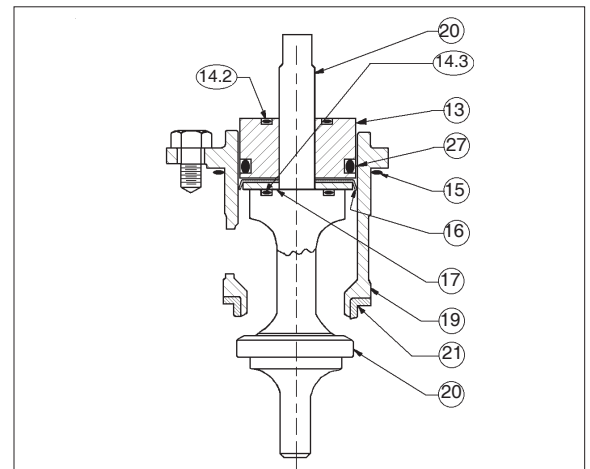

Figure 2: Assembled ITA, Composition Diaphragm Construction
1. Units with Composition Diaphragm(s) (See Figure 2):
- a. Pull the valve plug (20) downwards and out of the piston-guide bearing (13) and out of the cage's (19) bottom, while holding the cage (19).
- b. Remove the piston-guide bearing (13) from the upper end of the cage (19).
- c. Remove o-ring middle stem seal (14.2) from piston-guide bearing (13).